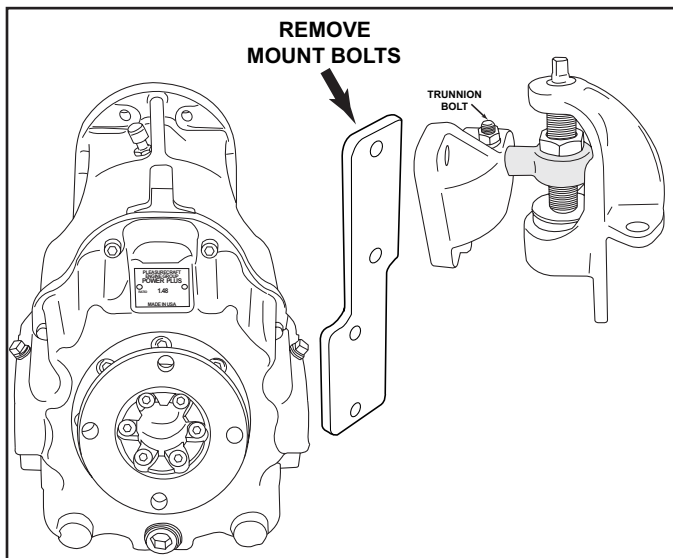

Figure 11-22 PCM V-Drive
Locations "A" (Figure 11-22) are access holes in order to loosen the raw water pump attaching bolts. The bolts are secured in the pump by O-rings, and will not fall out during removal.
- For the PCM V-Drive, loosen the trunnion bolt on the mount, then remove the bolts used to attach the mount to the CVD mounting bracket. Slide the mount away from the bracket. Refer to Figure 11-22.